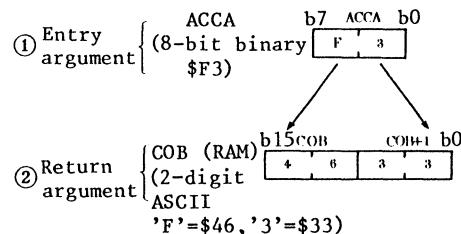

Fig. 1 Example of COBYTE execution
(b) Fig. 1 shows example of COBYTE execution. If entry argument is as shown in part ① of Fig. 1, data converted from 8-bit binary data into ASCII is contained to COB (RAM) as shown in part ② of Fig. 1.